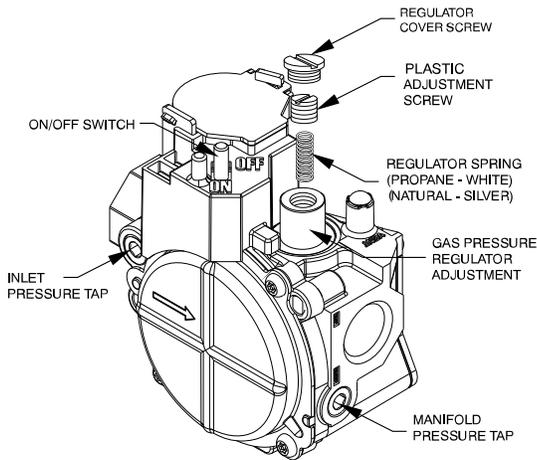
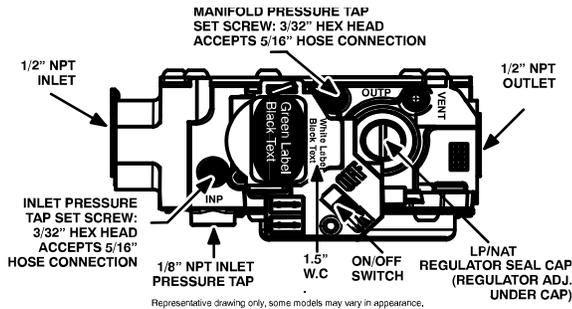

Fig. 29 – Single-Stage Gas Valve
Fig. 30 – Single-Stage Gas Valve with Tower Pressure Ports
- b. For Ultra Low NOx units with standard gas valve, remove manifold pressure tap cover using an allen wrench. (See Fig. 29.) Install barbed pressure tap and hose to connect to manometer. Turn on gas supply to unit.
- c. For gas valve with tower pressure ports (Standard, Low NOx and Ultra Low NOx models), loosen set screw on manifold tower pressure tap no more than one full turn counter-clockwise with a 3/32-in. hex wrench. (see Fig. 30.) Connect manometer by sliding 5/16-in connecting hose over the manifold tower pressure port. Turn on gas supply to unit.
1. Remove regulator cover screw over plastic adjustment screw on gas valve (See Fig. 29 and Fig. 30).
2. Turn plastic adjustment screw clockwise to increase gas input, or turn plastic adjustment screw counterclockwise to decrease input (See Fig. 29 and Fig. 30). Manifold pressure must be between 3.2 and 3.8 IN. WC.
3. Replace regulator cover screw on gas valve (See Fig. 29 and Fig. 30).
- c. For gas valve with tower pressure port (Standard, Low NOx and Ultra Low NOx models), remove connecting hose. Tighten set screw clockwise on manifold pressure port using a 3/32-in hex wrench. (See Fig. 30.)